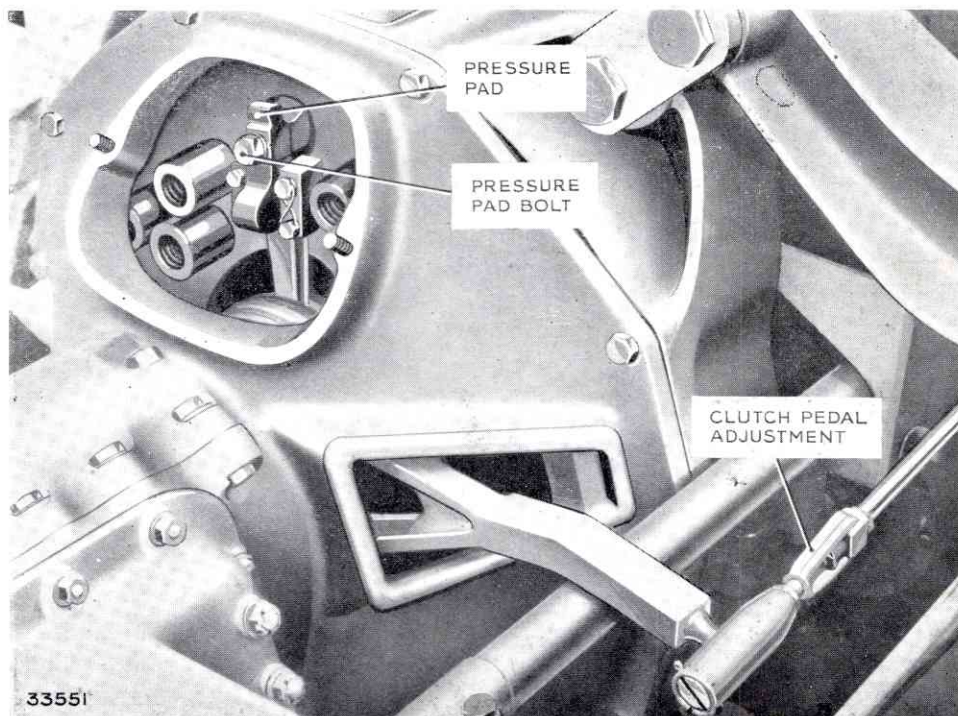

FIG. 8. ACCESS TO THE PRESSURE PADS
1. Remove the ventilation cover from the clutch housing, Fig. 8.
The effective travel of the clutch pedal is not sufficient to allow the full free travel available on the withdrawal sleeve to be utilised. Therefore when setting the withdrawal levers with the pressure pads, adjust the turnbuckle shown in Fig. 8 until the free-travel is reduced sufficiently to allow the clutch to disengage fully when the pedal is nearly fully depressed. As the clutch wears and the free travel at the pedal is reduced to about ½ in., adjust the clutch operating rod by the turnbuckle until the free travel is regained. When the free travel is reduced again, reset the pressure pads.
A plain locknut was originally fitted at the rear end of the clutch control-rod, between the turnbuckle and the ball-end socket ; see **Clutch Pedal Adjustment**, as Fig. 8.